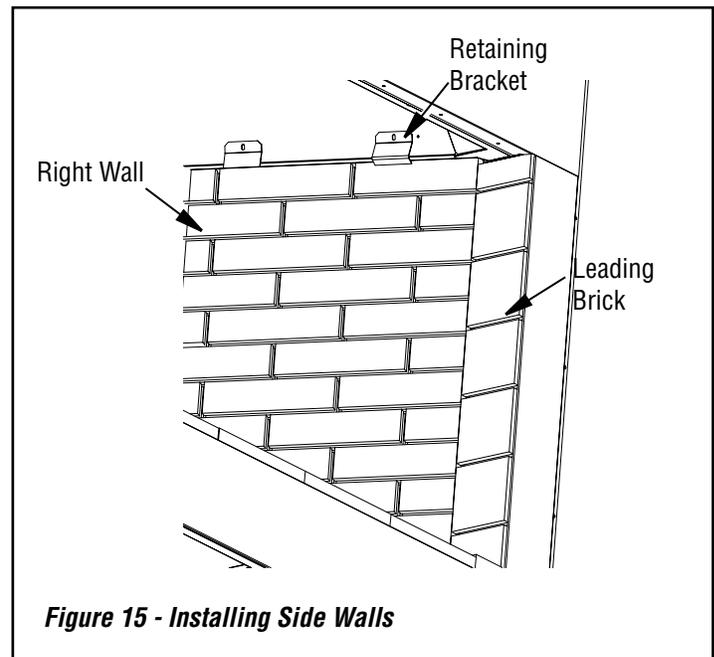

Figure 15 - Installing Side Walls
4. Secure the firebrick wall using 2 of the retainers provided. The bracket will slip underneath the metal lip on the top of the wall and screw into the inner dome of the fireplace (**Figure 15**).